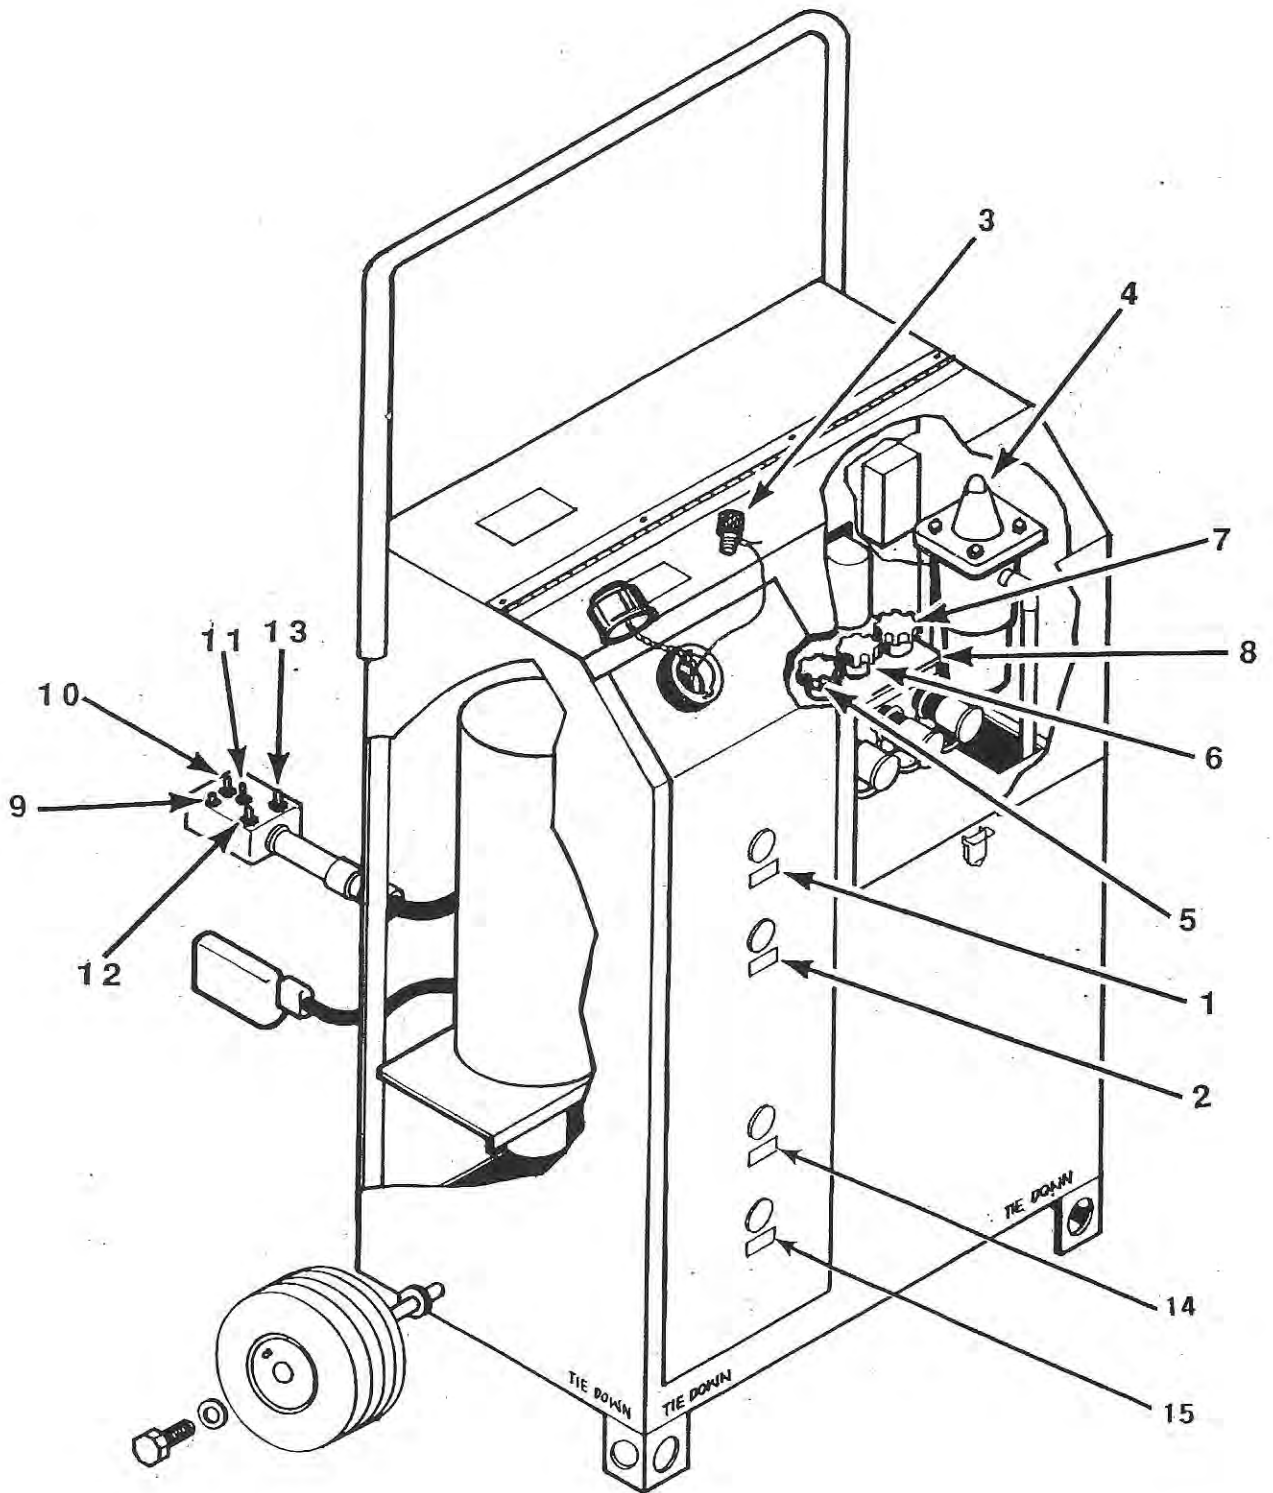

Figure 2-1. Controls and Indicators
2-1. Controls and Indicators. Controls and indicators for operation and monitoring of the hydraulic kneeling/erecting cart are located on the front side of the cart and on the controller which is stowed inside the cabinet. All controls and indicators are identified in Table 2-1 and located on Figure 2-1.
5. Remove controller from cabinet and ensure pump switch S4 (10, Figure 2-1) is in OFF position.
7. Set pump switch S4 (10) to ON.
9. Set pump switch S4 (10) to OFF.
4. Remove controller from cabinet and ensure pump switch S4 (10, Figure 2-1) is in OFF position.
6. Ensure POWER ON indicating light (9) is on.
7. Open hydraulic fluid filler cap on reservoir. Remove bleed adapter (3) from it.
8. Install bleed adapter (3) into the left hydraulic hose strut connector.
9. Point and hold connector with bleed adapter (3) installed into the filler cavity.
10. Ensure left manual flow regulator (6) is in open position (turn counterclockwise).
11. Set pump switch S4 (10) to ON. Move left switch S1 (12) to RAISE and hold. Observe for fluid flow. When fluid flows without air bubbles, release S1. Set pump switch S4 to OFF. Remove bleed adapter (3) from hose.
12. Install bleed adapter (3) into the right hydraulic hose strut connector.
14. Ensure right manual flow regulator (7) is in open position (turn counterclockwise).
2. Remove controller from cabinet and set pump switch S4 (10, Figure 2-1) to OFF position.
4. Ensure POWER ON indicating light (9) is on. Set pump switch S4 (10) to ON position.
7. Observe pressure reading on pressure gage (8). It should not exceed 3,000 psig.
switches S1 and S2 (12 and 13, Figure 2-1) on controller to LOWER position.